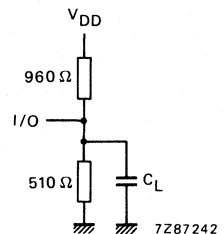

Fig. 4 Load for a.c. test conditions ($V_{DD} = 5\text{ V} \pm 0,5\text{ V}$).
$V_{DD} = 5\text{ V} \pm 0,5\text{ V}$; $V_{SS} = 0\text{ V}$; $T_{amb} = -25\text{ to } +70\text{ }^{\circ}\text{C}$; measured in Fig. 4, $C_L = 100\text{ pF}$; unless otherwise specified
A.C. TEST CONDITIONS (see Fig. 4)